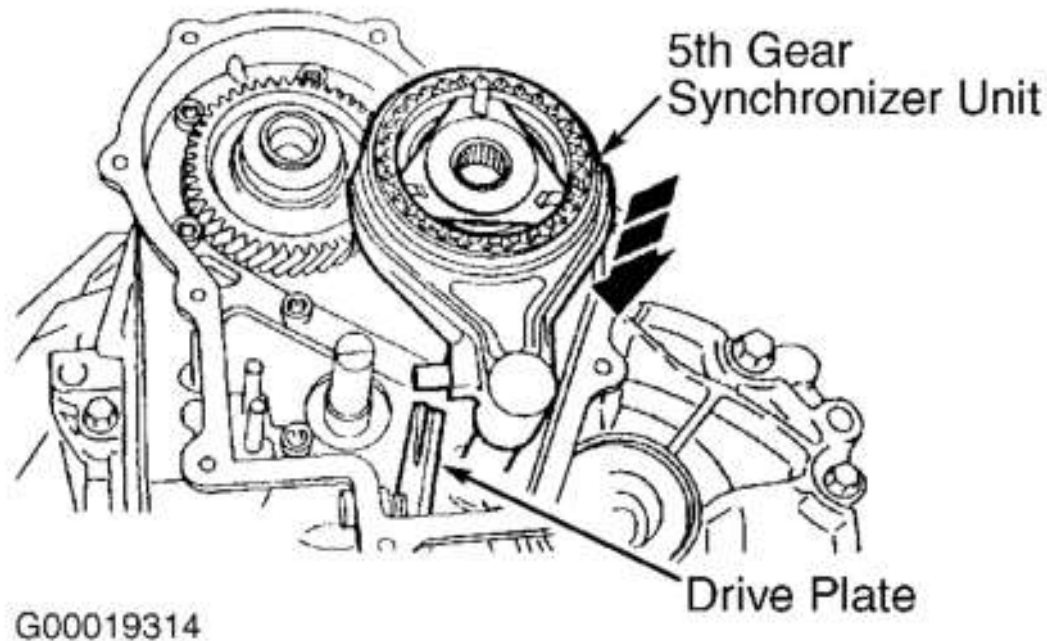

Fig. 32: Installing 5th Gear & Synchronizer Unit
13. Install 5th gear snap ring onto Input Shaft Snap Ring Installer (308-076), and install snap ring onto input shaft. Assemble 5th gear synchronizer if disassembled. See **Fig. 31** . Install 5th gear synchronizer unit with selector fork. Swivel drive plate upward and push 5th gear synchronizer down until it reaches drive plate. See **Fig. 32** . Install gear selector finger, but DO NOT tighten bolt. Install 5th gear synchronizer snap ring. See **Fig. 8** .